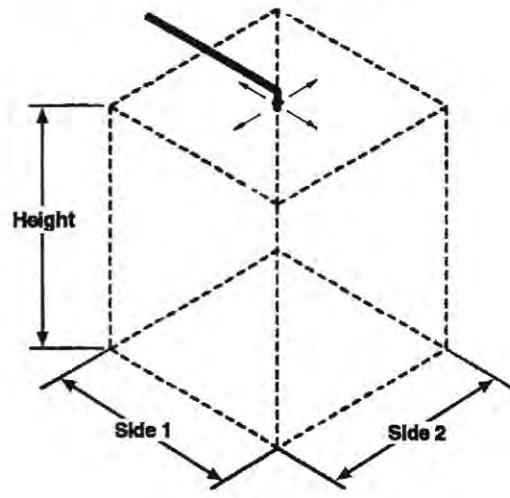

Figure 3-4
The nozzle is to be mounted in the center of the protected area, with the discharge holes in the nozzle no greater than six (6) inches from the ceiling. **See Figure 3-4.**